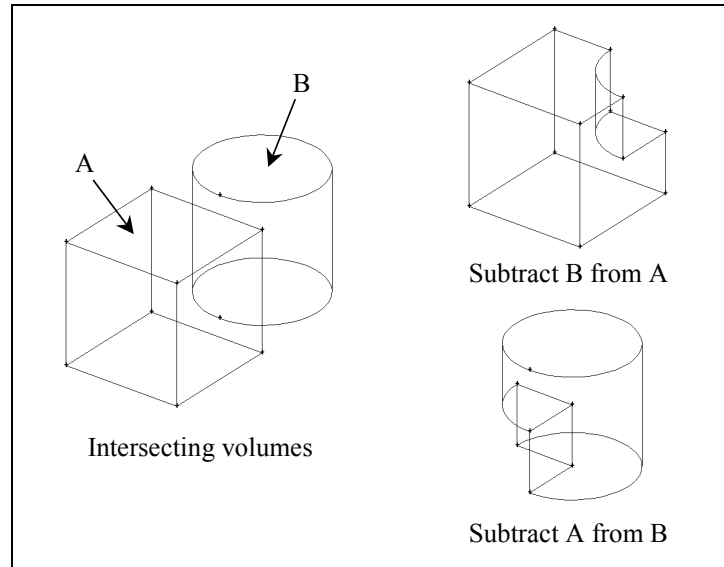

Figure 4-6: Subtracting volumes
*The order of selecting the volumes is important. For example, Figure 4-6 shows the difference between subtracting volume B from volume A, and vice versa.*